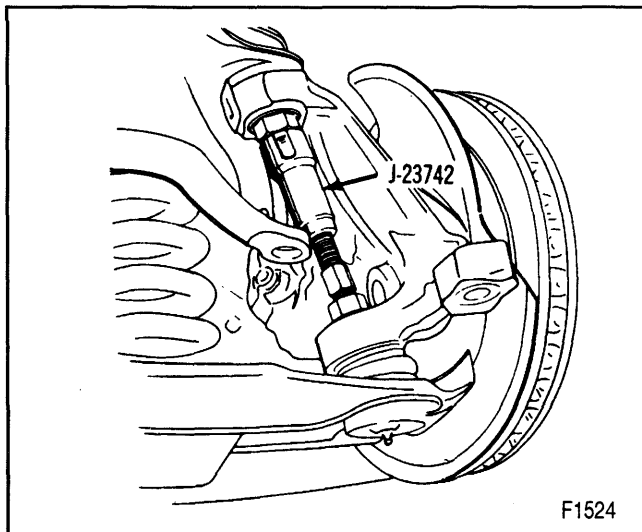

Figure 13—Disconnecting the Lower Ball Joint
3. Cotter pin and the nut (67).
- Use J 23742 to break the ball joint loose from the knuckle (figure 13).
4. Lower control arm (40) from the knuckle.